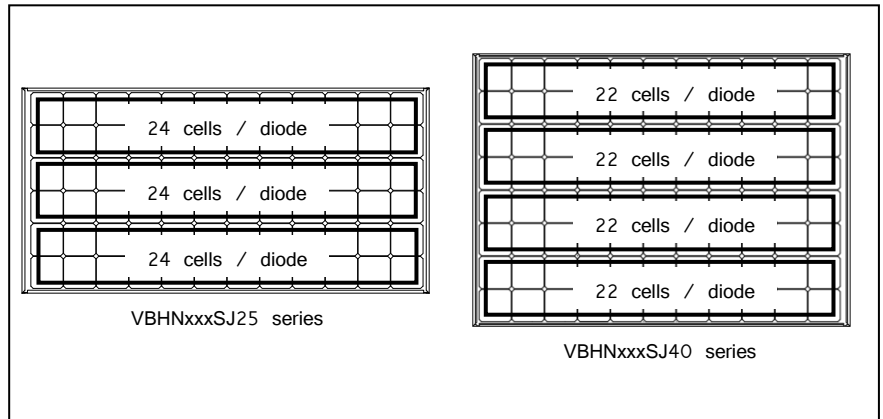

Figure 4: Number of series cells per bypass diode
- Specifications of bypass diode for VBHNxxxSJ25 series are as follows; Number of bypass diode: 3 diodes, Number of series cells per bypass diode: 24 cells / diode. Specifications of bypass diode for VBHNxxxSJ40 series are as follows; Number of bypass diode: 4 diodes, Number of series cells per bypass diode: 22 cells / diode (See Figure 4).